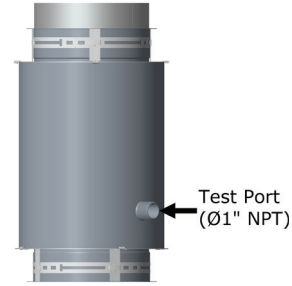

Figure 74 - Nozzle Length (NL)
The Nozzle Length NL is used when there is a need for test port. Same size as the Drain Length (DL). See **Figure 74**.